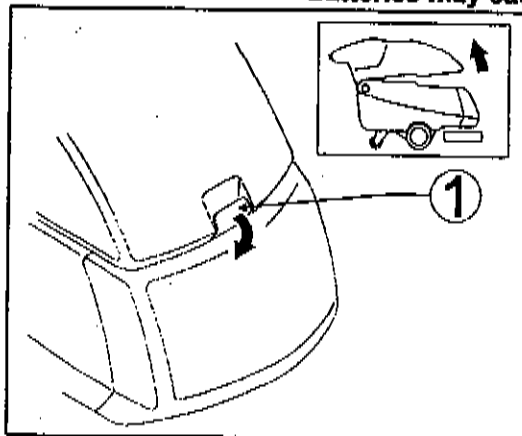

Fig. 7
- 3) unhook the recovery tank (fig. 2, ref. 2) from the solution tank (fig. 2, ref. 3) acting on the blocking hook (fig. 7, ref. 1), placed on front of the machine;
- 7) Insert back the tank unit in its work position and hook it to the solution tank by means of the fixing hook (fig. 7, ref. 1);